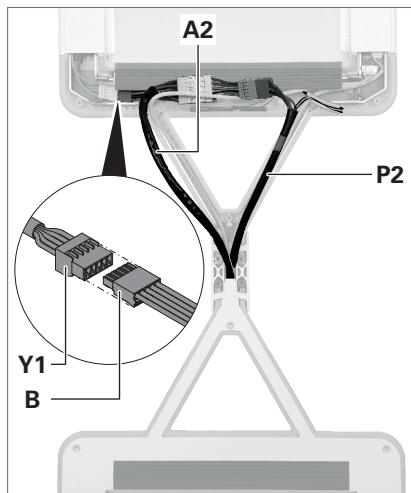

Fig. 16: Connect the supply cable.
- In luminaire head 1, take the pin strip **Y1** out of the compartment under the heat sink, see Fig. 16.